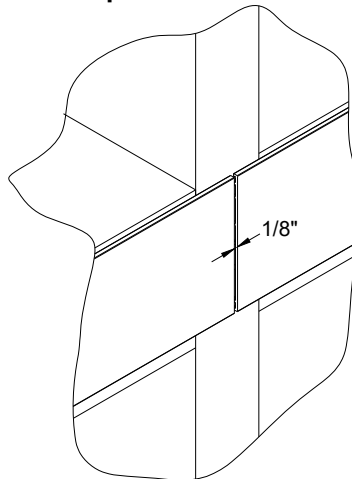

Figure 53: WW-259 Intermediate Mullion Splice Joint
- 16.13 When using the optional **RL-583** Horizontal a **WW-259** interior Snap on Cover will be required. Cover must be notched to clear jamb mullions and intermediate mullions. If Cover is run across intermediate Vertical, then a 2-1/2" notch will also be fabricated at these locations. Where Cover needs to be spliced at intermediate mullions, the notch will be 1-1/4" long and Cover will be cut at Mullion centerline minus 1/16" to form a 1/8" joint. See *Figure 53* for butt joint.